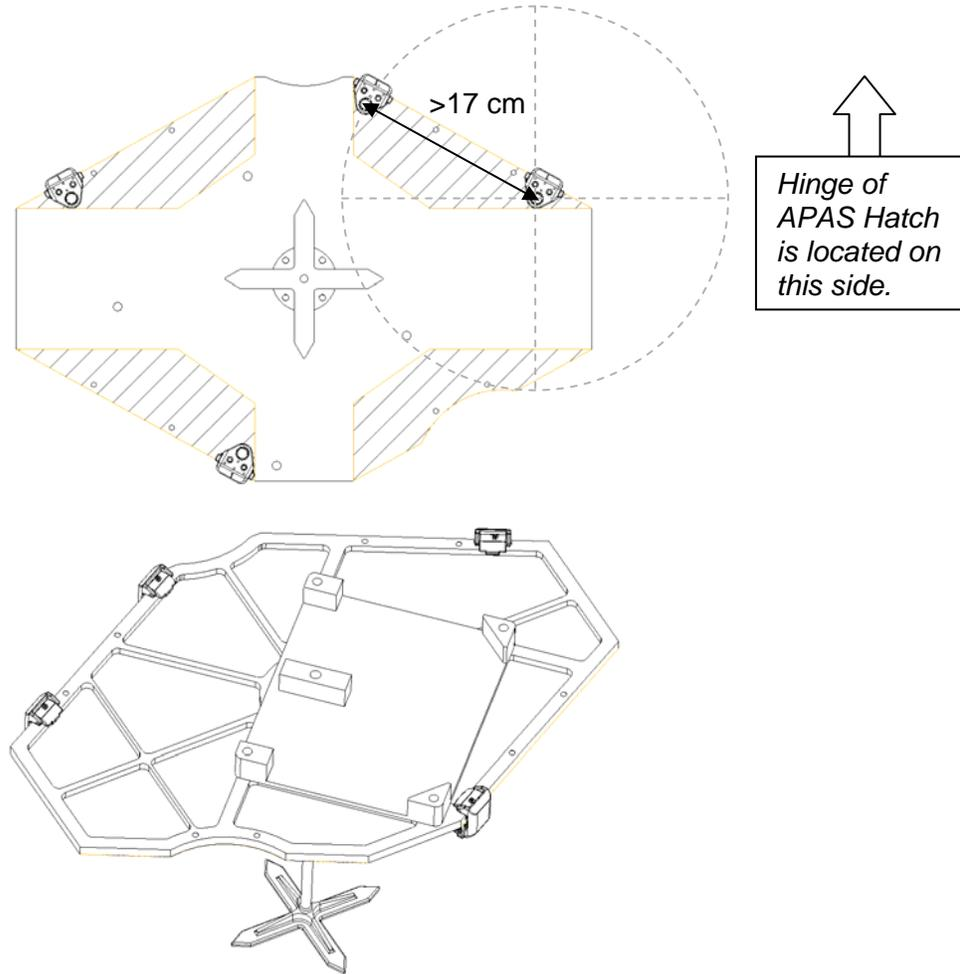

Figure 2.- Placement of Edge Clamp Reflective Elements.
- Follow the general pattern shown above in Figure 2.